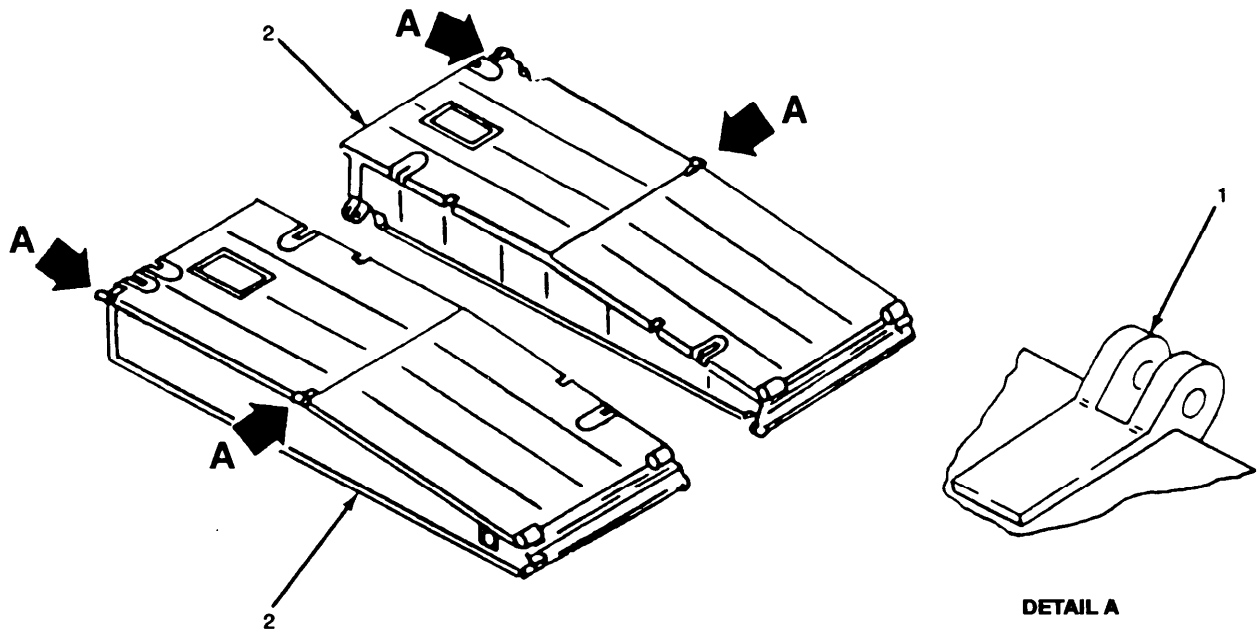

Figure 3-10. interior Bay Support Link and Hinge Pins, Replace.
a. Replace. (figure 3-10)
- (1) Cutout support link (1) from roadway ponton (2) in accordance with TM 9-237.
- (2) Install support link(l) by welding in accordance with TM 9-237.